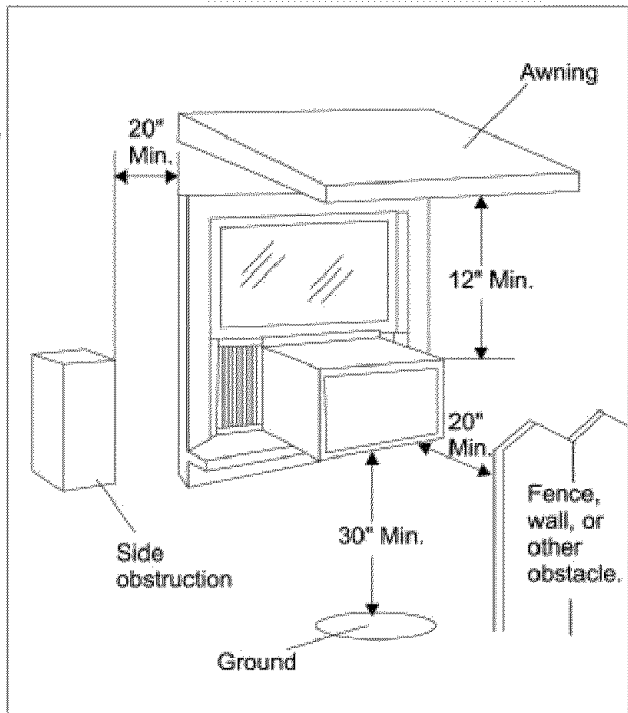

Fig.2
D. Provide sufficient clearance around the cabinet to allow for ample air circulation through the unit. See (Fig.2). The rear of the unit should be outdoors and not in a garage nor inside of a building. Keep unit as far away as possible from obstacles and at least 30" above the floor or ground. Curtains and other objects within a room should be prevented from blocking the air flow.